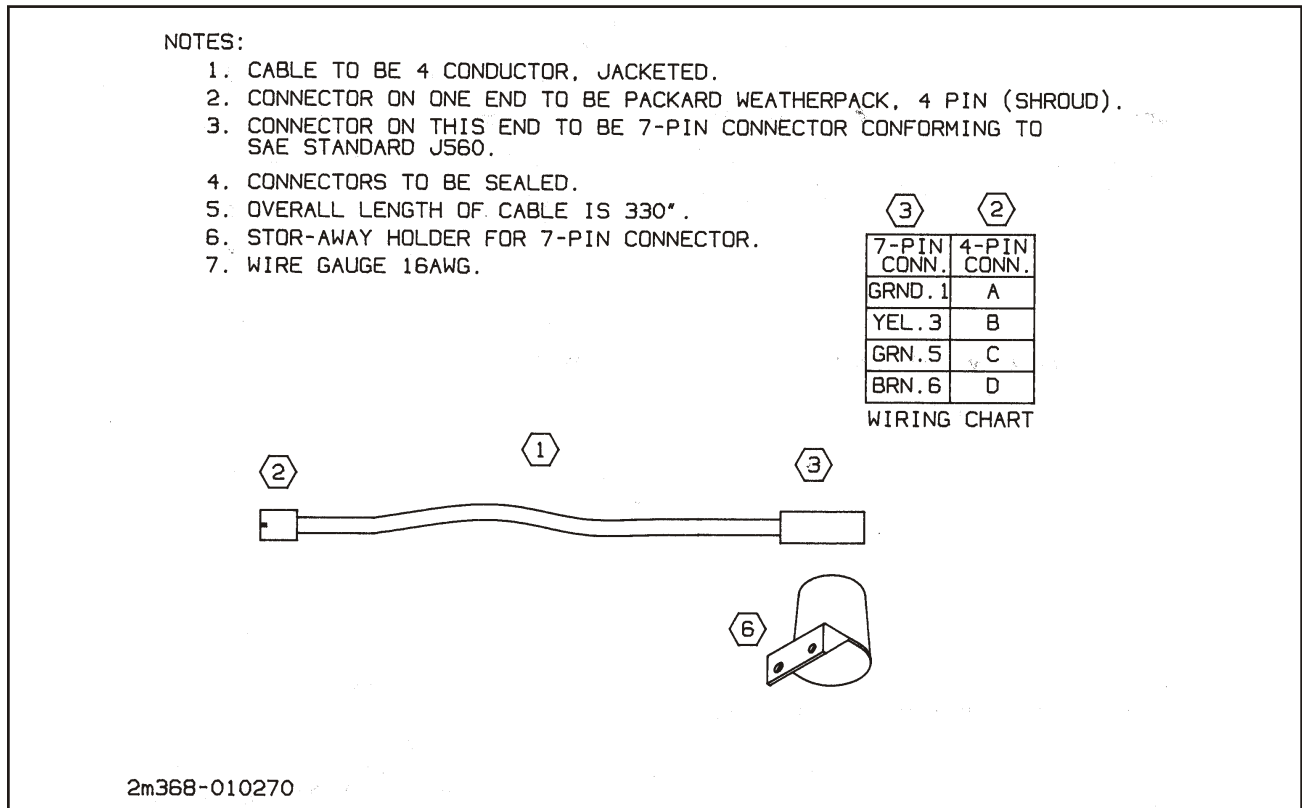

Figure 3-15 Wiring Diagram
- 3-12.5** Install the main harness by starting at the hitch and routing the harness through the hose loops to the extension harness. See wiring diagram as shown in **Figure 3-15**.